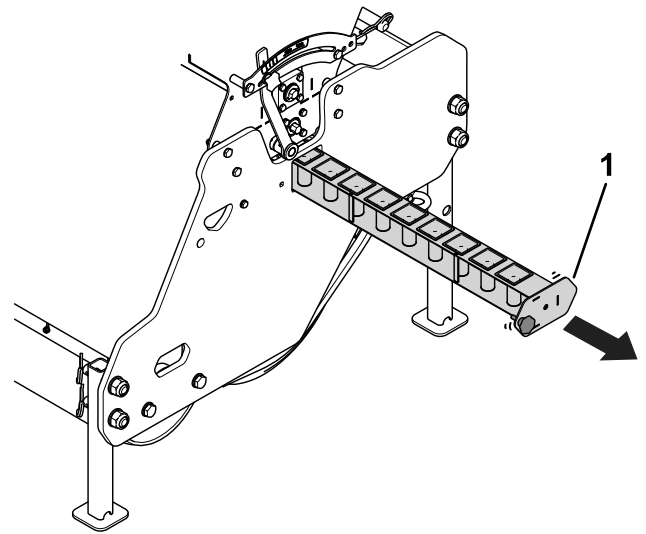

Figure 11
3. Loosen the seed-tray knob and slide the seed tray out of the machine (Figure 11).